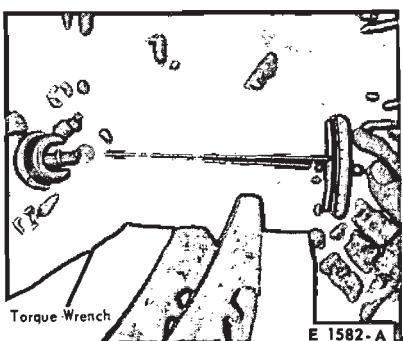

FIG. 7—Checking Pinion Bearing Preload
3. Install an in-lb torque wrench on the pinion nut (Fig. 7). Record the torque required to maintain rotation of the pinion shaft through several revolutions.
15. Tighten the pinion shaft nut, rotating the pinion occasionally to insure proper bearing seating, and take frequent preload readings (Fig. 7) until the preload is at the original recorded reading established in step 3.
11. Tighten the pinion shaft nut, rotating the pinion occasionally to insure proper bearing seating, (Fig. 7) and take frequent preload readings until the preload is at the original recorded reading established in step 3.